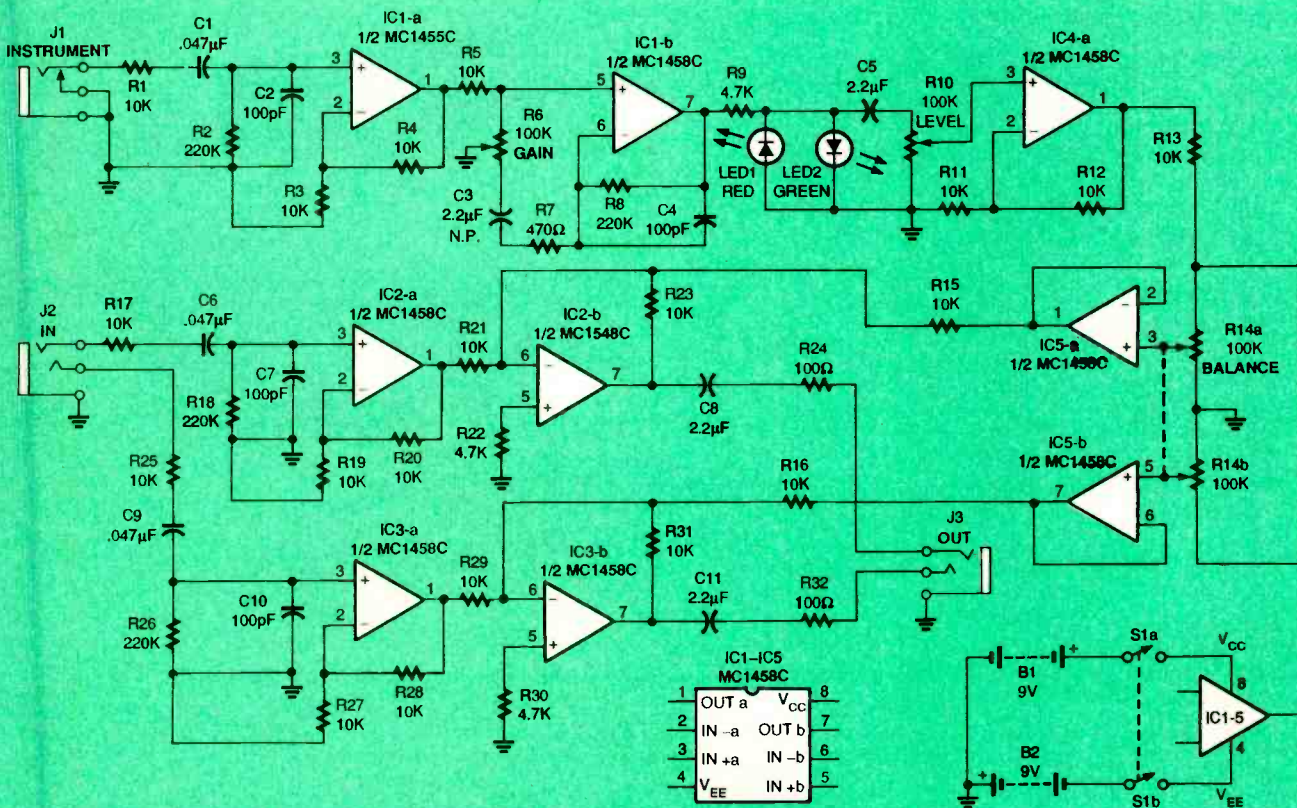

Fig. 1. Here's the schematic diagram for JamMix. Note that nine out of ten sections from five MC1458C dual op-amps are used.
**Circuit description.** Refer to the schematic diagram in Fig. 1. Nine of